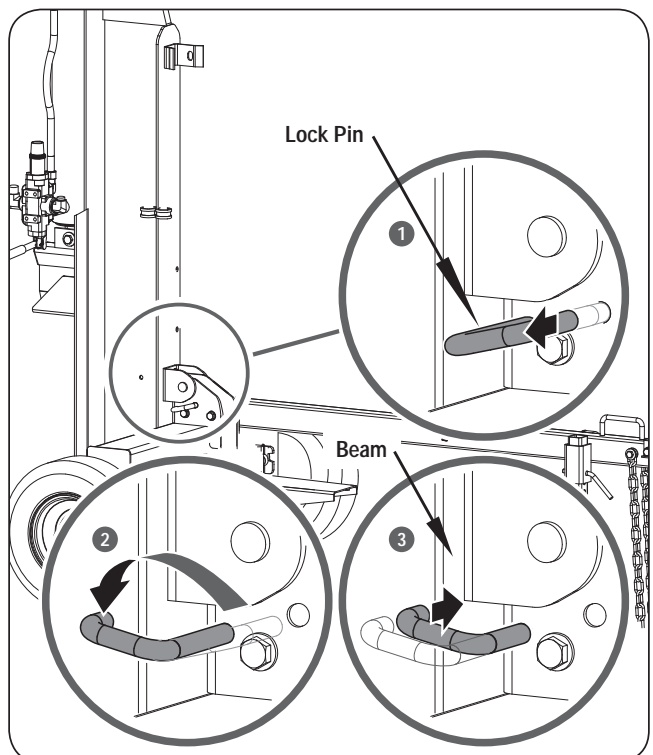

Figure 8c
4. Pull the lock pin and rotate the lever to hold the beam. (See *Figure 8c*.)